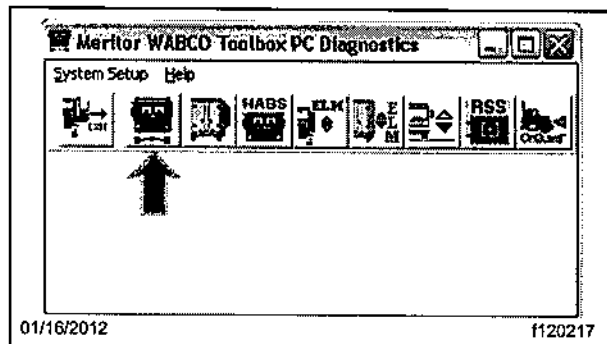

Fig. 5, Blue Truck Icon
3. Launch the Meritor WABCO TOOLBOX® diagnostic software and click on the blue truck. See Fig. 5.
2. Launch the Meritor WABCO TOOLBOX[®] diagnostic software and click on the blue truck. See Fig. 5.